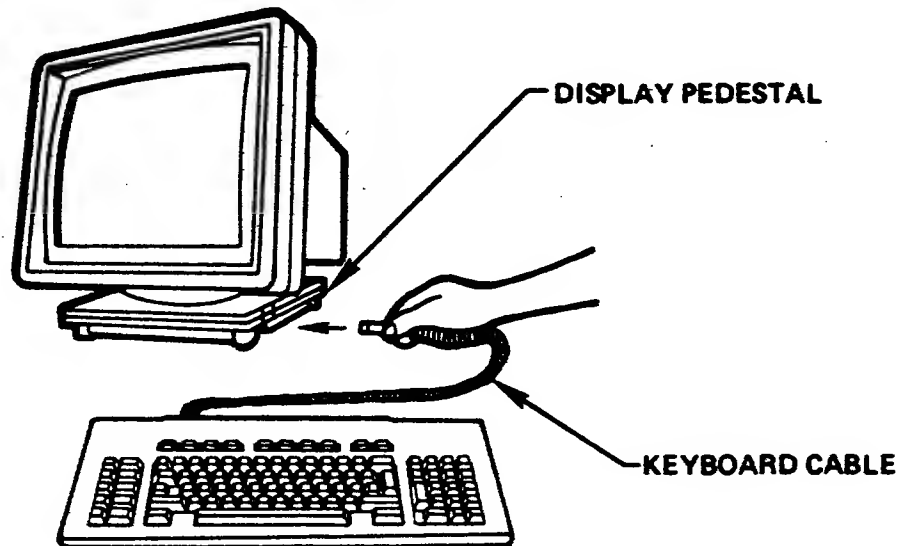

Figure 2-9. Keyboard and Display
1. Attach the keyboard cable to the display at the right side of the display pedestal (Figure 2-9). The notch of the large connector should be on the top when the keyboard cable is connected to the display.